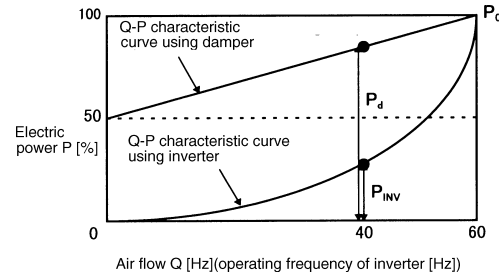

Figure 1 Q-P Characteristic Curve
- In accordance with general output characteristics (Q-P curve) in Figure 1